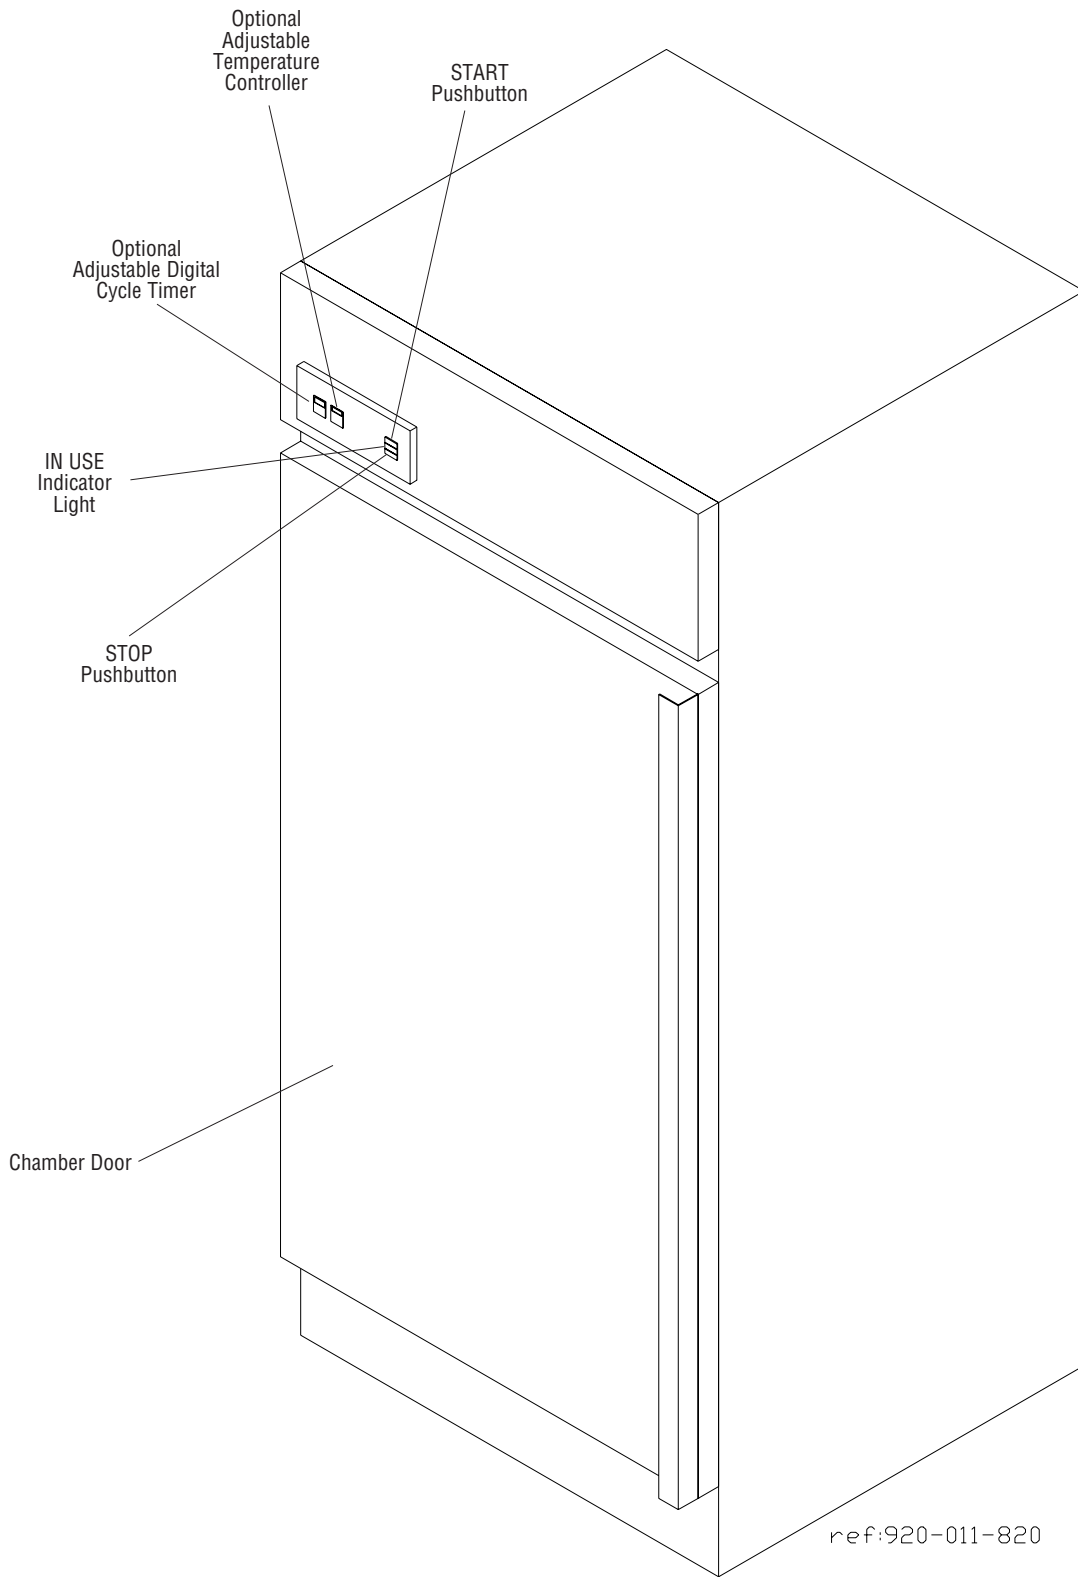

Figure 2-1. Reliance 1024 Laboratory Glassware Dryer
- Disconnect switches (not provided by STERIS), capable of being locked in OFF position only, installed in electrical supply lines near the unit and in compliance with local codes, OSHA standards, etc. (see Figure 2-1).